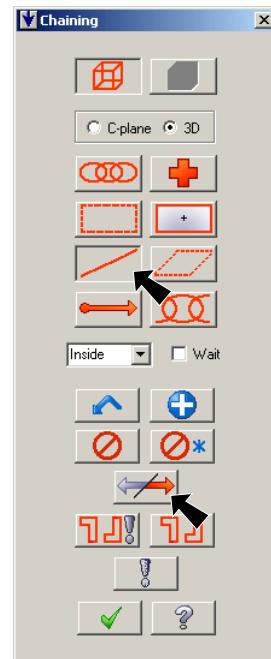

Fig. 25
Step 2. Click Single  (S) in Chaining dialog box, Fig. 25.